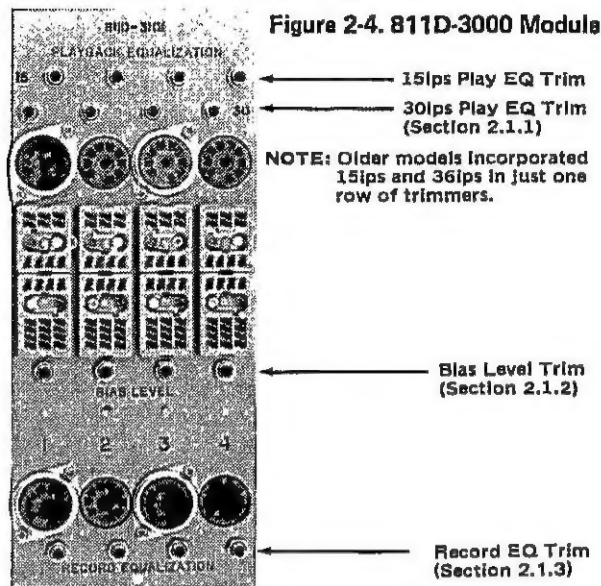

Figure 2-4. 811D-3000 Module
- Step 11** Adjust each channel's PLAYBACK EQUALIZATION (trimmers located on the 811D-3000 series modules), so the corresponding VU meter indicates 0 dB. (Refer to fig. 2-4.)
- Step 6** Set the BIAS LEVEL trimmer (on the 811D-3000 module, see figure 2-4) by turning it clockwise until the corresponding VU meter reaches a peak, then continue to turn clockwise until the level drops 1/4 to 1/8 dB below the peak.
3000 module, see figure 2-4) so the corresponding VU meter indicates 0 dB.